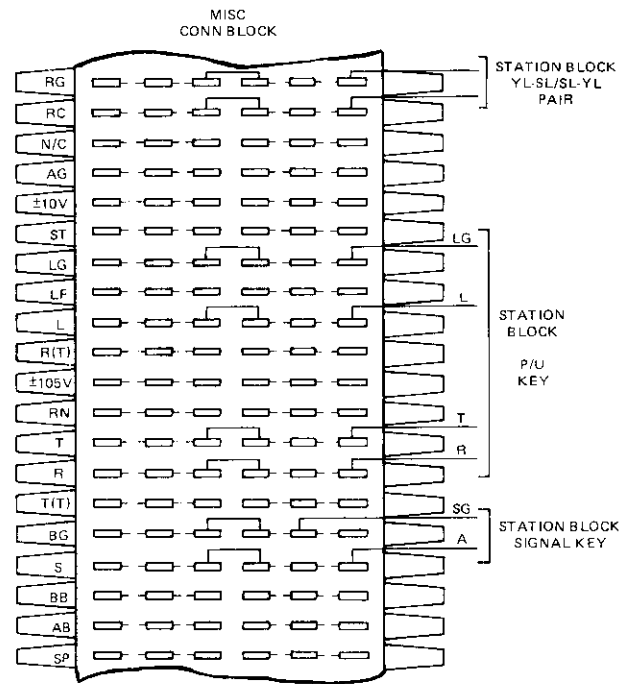

Figure 27: Connecting Details, 414A KTU to Station
- (d) On the station connecting block for the assigned telephone, locate the terminals for the selected line key. Connect the T, R, LG, and L terminals to the terminals across from the corresponding terminals on the MISC connecting block on the MDF. Refer to Figure 27.
- (d) On the station connecting block for the multibutton telephone, locate the terminals for the selected line pickup key. Connect the T, R, LG, and L terminals to the terminals across from the corresponding terminals on the MISC connecting block. Refer to Figure 27 for details.
- (e) On the station connecting block, connect the terminal for the YL-SL lead to the terminal across from the RG terminal on the MISC connecting block. Connect the terminal for the SL-YL lead to the terminal across from the RC terminal on the MISC connecting block. As shown in Figure 27, use bridge clips to complete the connections to the 416A KTU.